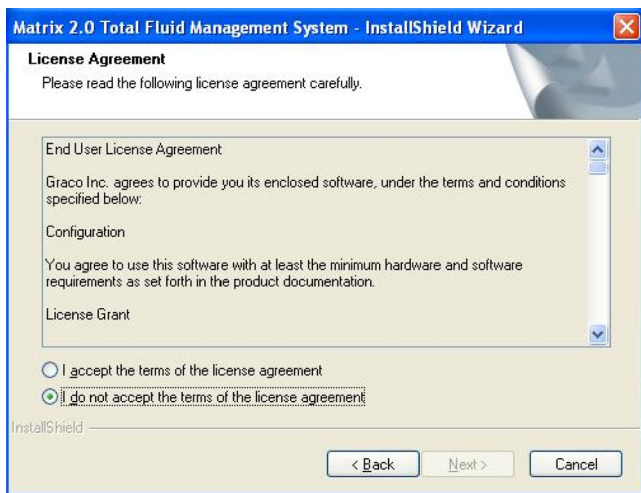

FIG. 27 Setup Path 2 - License Agreement
- Review the End User License Agreement (FIG. 27). If acceptable, select "I accept..." and click **Next**.